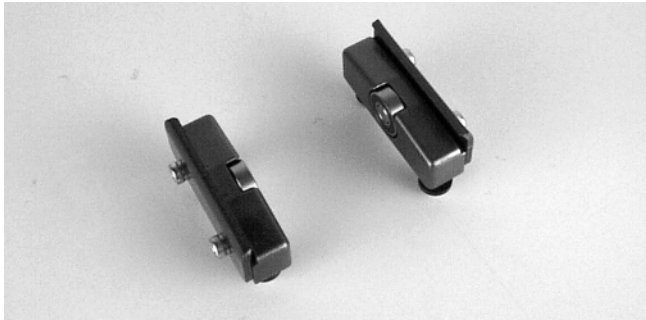

Figure 10
1. Typical components (Figure 10)